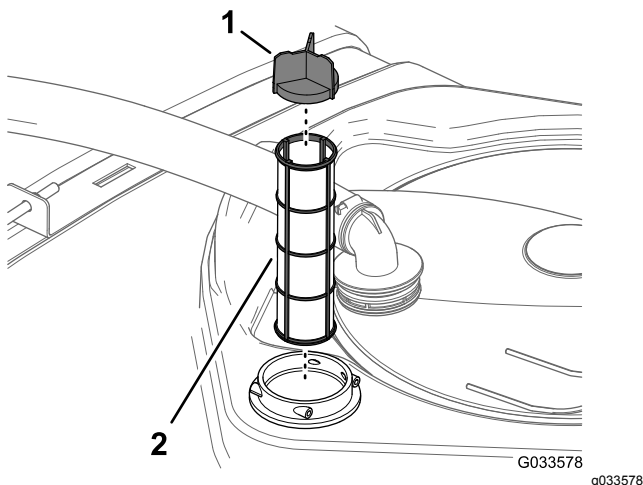

Figure 78
4. Pull the suction strainer out of the filter housing in the tank (Figure 78).